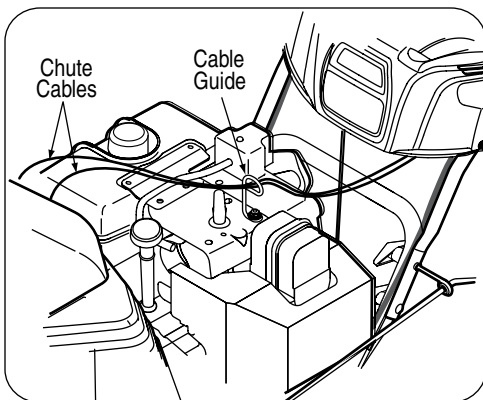

Figure 3-6
- Check that the chute cables are properly routed through the cable guide on top of engine shroud. See Figure 3-6.